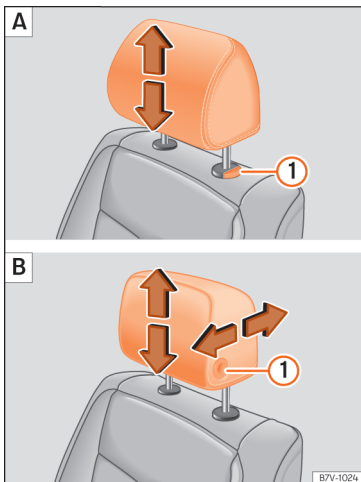
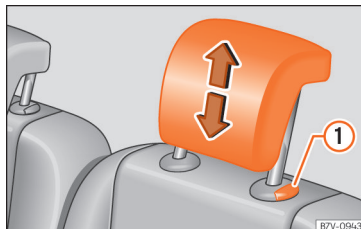

Fig. 131 Front seat: headrest adjustment.
Fig. 132 Adjust the headrests in the second or third row of seats
- Move the headrest up or down in the direction of the corresponding arrow. Regarding the rear headrest, to both raise and lower, press the button » **Fig. 131** ①; for the rear headrests it is only necessary to press the button » **Fig. 132** ① to lower them » ⚠ in Introduction on page 133.
- Move the headrest forward or back in the direction of the corresponding arrow while pressing the button » **Fig. 131** ① [B].